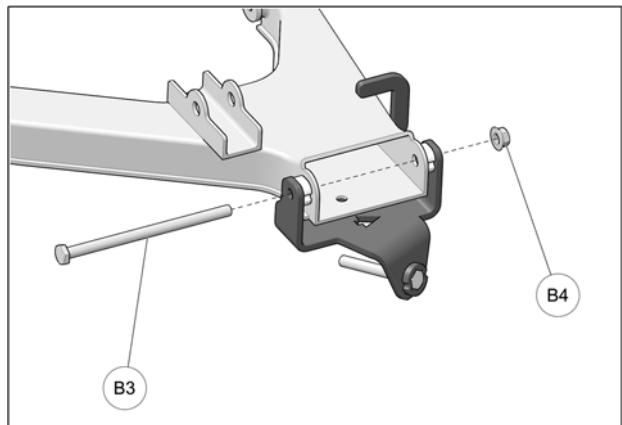

Fig. 8
8. Insert the new M10x170mm bolt (B3) through anchor bracket, suspension arm and wheel knuckle. Secure assembly with the provided M10 nut (B4). Torque nut to 50 N·m [37 lb·ft]. See Fig. 8